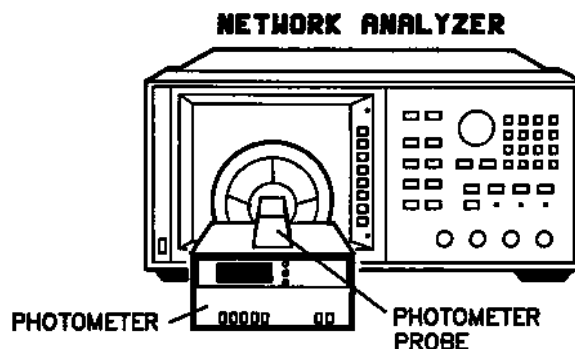

Figure 5-7. Nominal Intensity Adjustment Set-up
3. Center the photometer on the analyzer CRT as shown in figure 5-7. Adjust the analyzer front panel knob until the photometer registers 100 cd/m² NITS (77 cd/m²) of output light if the glass bezel assembly is *not* installed. Adjust for 60 nits (46 nits) if the glass bezel *is* installed (the glass filter transmits 60% of the light).